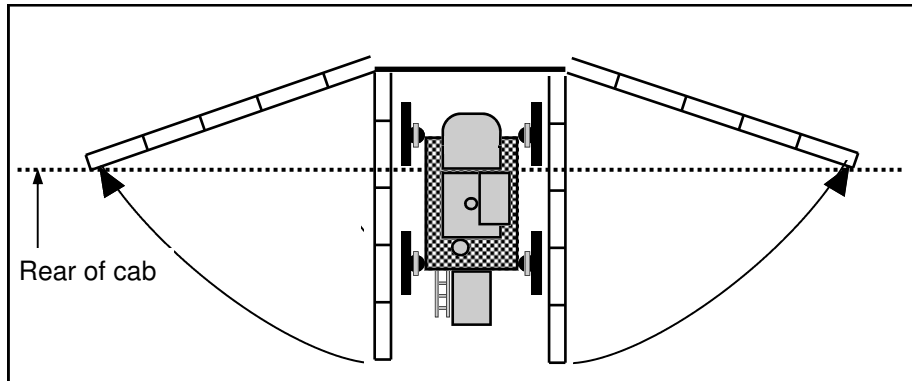

FIG. 4.43-1
3. With the booms folded, horizontally extend the booms so that the folded tip is approximately even with the rear of the cab.	4.43; FIGURE 4.43-1
OPENING THE BOOM– The booms must be partially open to keep them stable while off the machine . Open the booms so that the stand on the end of the first section is even with the rear of the cab (fig. 4.43-1).